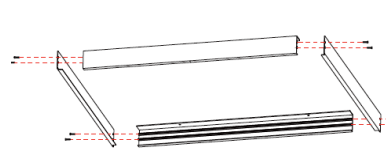

Fig. 12
1. Assemble the 4 frame sections with the provided self tapping screws (Fig. 12)